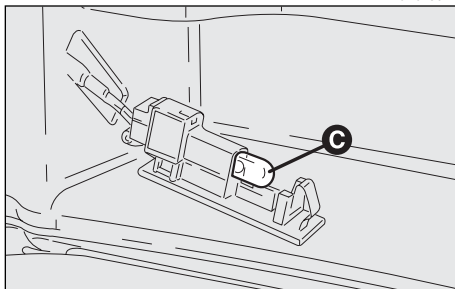

fig. 63
- Change the bulb (**C-fig. 63**) which is pressure-fitted.